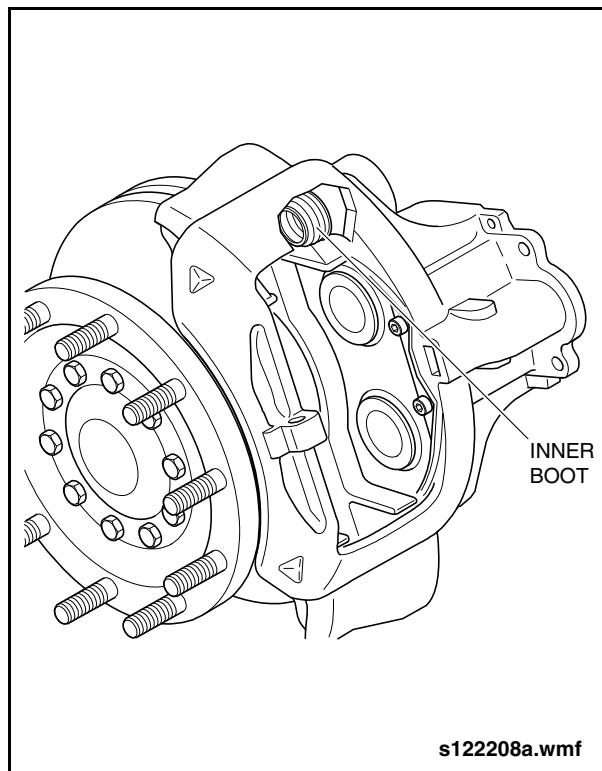

Fig. 1-53: Upper Guide Pin Inner Boot Inspection
2. Push the caliper fully inward to expose the inner rubber boot on the upper guide pin. See "Fig. 1-53: Upper Guide Pin Inner Boot Inspection" on page 57.